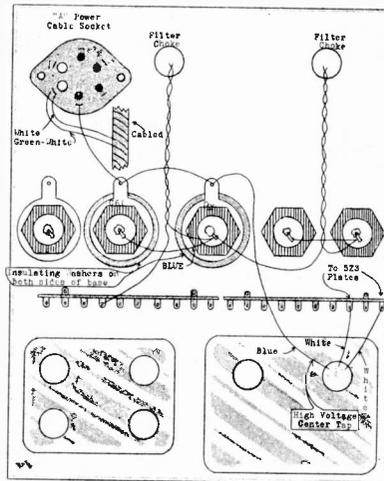
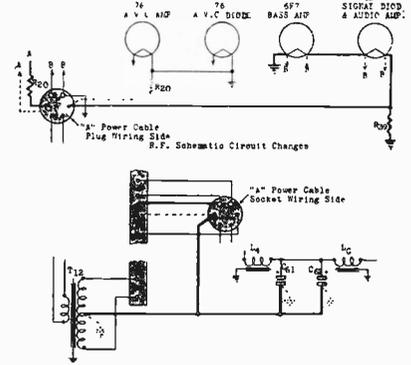

Fig. 2. The revised wiring for the a-f. chassis of the Wells-Gardner 6F Series
Fig. 3. Schematic changes in both chassis
Schematic, Fig. 1, shows changes in Wells-Gardner 6R to eliminate motor noise. Fig. 2, below, shows new parts positions
opposite side of the switch as indicated. A new condenser C32—.002 mf. is added as shown. The actual points at which these condensers are connected are shown in Fig. 2.
terminal of the "A" power cable plug with reference to its former position, as shown in Fig. 1 and Fig. 3.
Fig. 1. It will not be necessary to drill holes, but the ground lug should be bent over so that the resistor can be slipped under the shielded wires. As shown in Fig. 1 and Fig. 3, the ungrounded lug on R39 is connected to the heater terminal of the 6B7 tube socket, which also connects to the terminal of "A" power cable plug.
2. Then disconnect the high voltage center tap of "B" power transformer, T12, at the ground lug and connect it to the negative contact lug on one of the electrolytics. Next connect the negative contact lugs of the two electrolytics together—See Fig. 2.
4. At the "A" power socket, disconnect the green and white tracer wire at the cathode terminal and connect to the cathode heater terminal. Connect the cathode terminal to the contact lugs on the electrolytics—See Fig. 2 and Fig. 3.